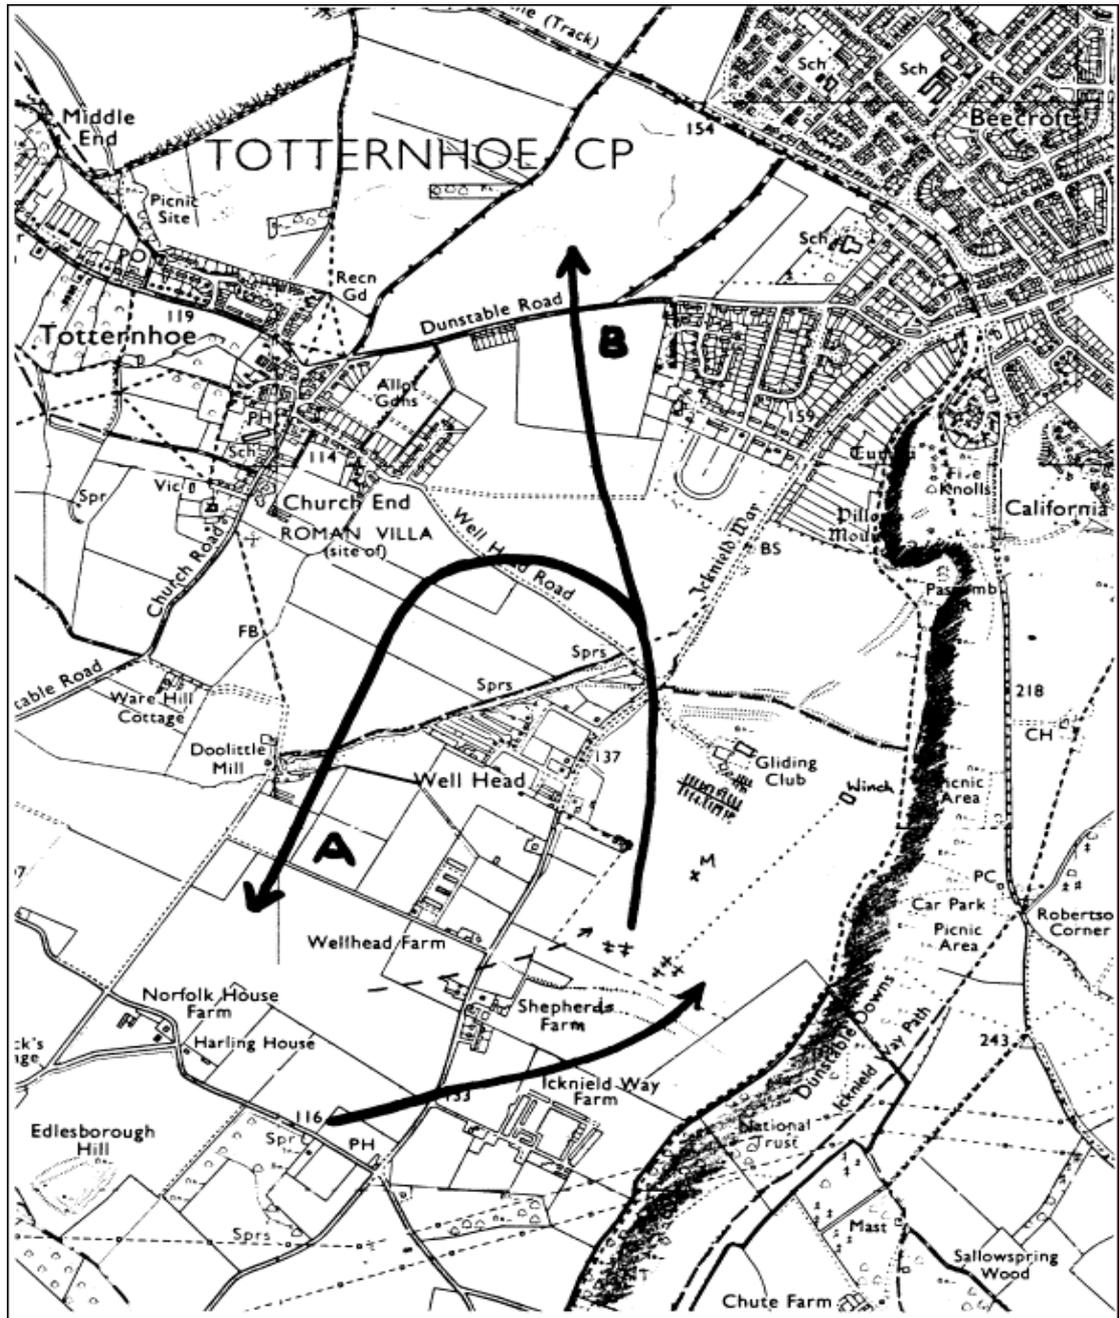

Figure 3
8.3 North East Run (Figure 3)
Landing. Landings should normally be made to the right of the launch point, where the ground is smoothest, along the approach paths indicated in Figure 3. Landing may be made onto the ground to the left of the launch point, which is rougher, but be aware of the location of the midfield lookout and of blocking any aerotow about to depart. If the winch cable needs to be traversed, call the tower to advise and exercise extreme care. Ensure that no cable has been ‘picked up’ as you cross. Beware of downdrafts on short finals in strong wind conditions.